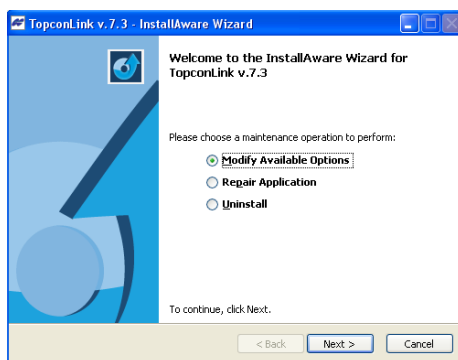

Figure 1-7. InstallAware Wizard
2. Select *Topcon Link v.7.3* in the *Add or Remove Programs* and click *Change* (Figure 1-7):